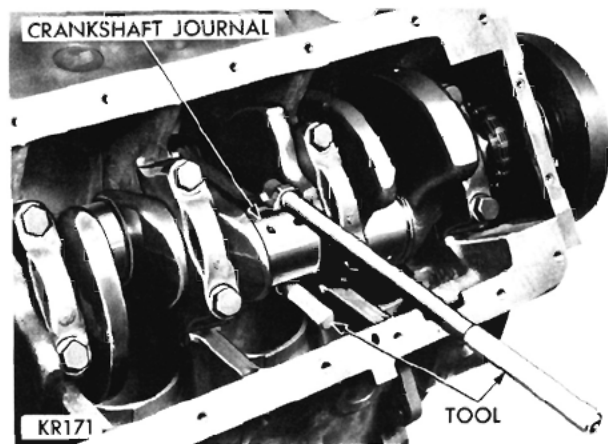

Fig. 113—Removing or Installing Connecting Rod Using Tool C-3221
(1) Before installing the pistons, rods, and rod assemblies in the bore, be sure that compression ring gaps are staggered so that neither are in line with the oil ring rail gaps.
(2) The oil ring expander ends should be positioned toward the outside of the "V" of the engine. The oil ring rail gaps should be positioned opposite each other and above the piston pin holes.
(3) Immerse the piston head and rings in clean engine oil, slide the ring compressor, Tool C-385, over the piston and tighten with the special wrench (part of Tool C-385).
(4) Be sure the position of the rings does not change during this operation. Screw the connecting rod bolt protector (part of Tool C-3221) on one rod bolt, and insert the rod and piston into cylinder bore.
(5) Attach the puller part of Tool C-3321 on the other bolt, and guide the rod over the crankshaft journal, as shown in Figure 113.
(6) Tap the piston down in the cylinder bore, using the handle of a hammer. At the same time, guide the connecting rod into position on the crankshaft journal.
(7) The notch or groove on the top of the piston must be pointing toward the front of the engine and the larger chamfer of the connecting rod bore must be installed toward the crankshaft journal fillet.
(8) Install the rod caps, and tighten nuts to 45 foot-pounds torque.